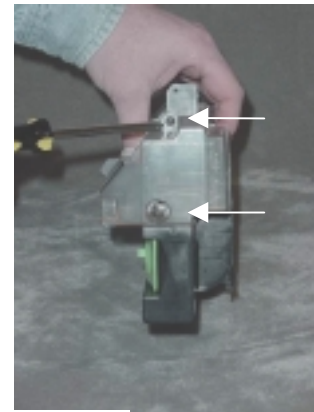

Fig. 1
1. Remove two screws that connect the waste bin to the toner hopper shown in Fig. 1.